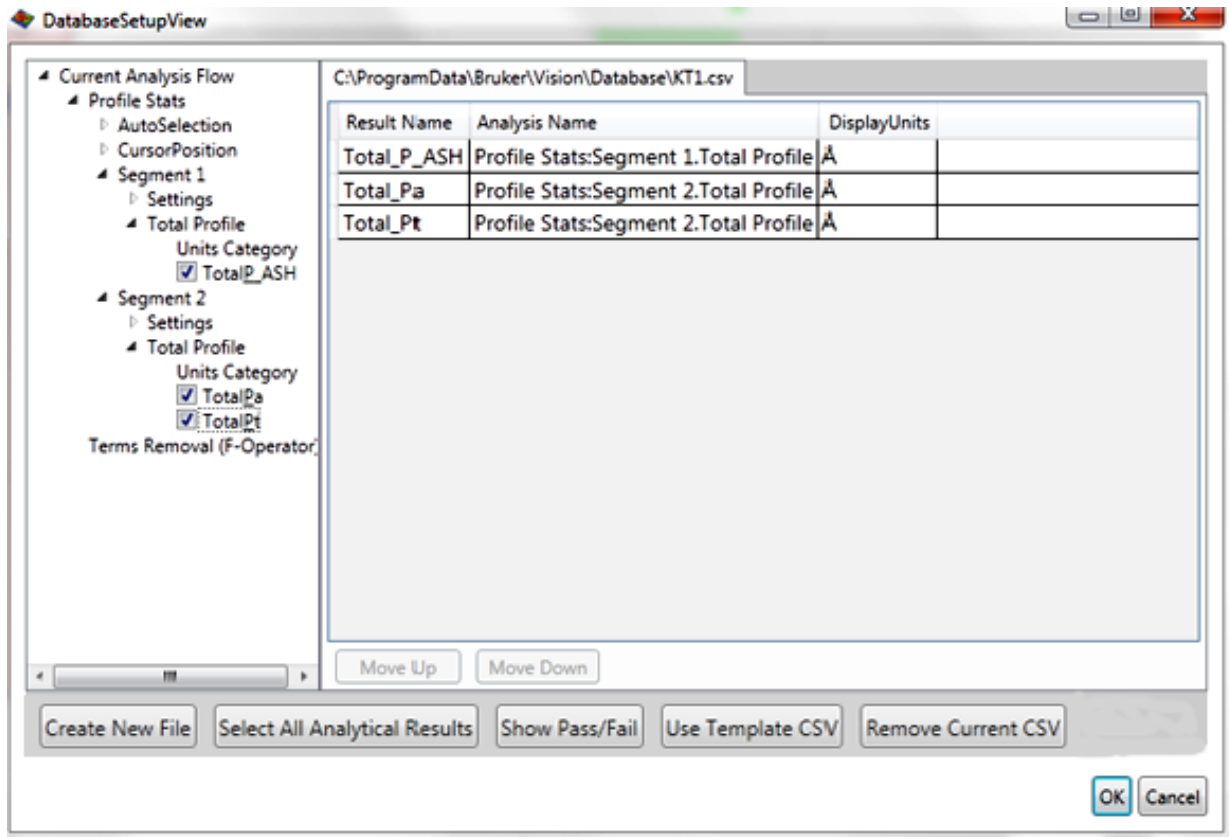

Figure 4-20: Database Setup View window
- 3 As shown in Figure 4-20, the **Database Setup View** window appears. The currently selected analysis flow is available from nested expandable lists in the upper right corner. A table to the left shows the parameters in the currently active database, whose path appears above the table.